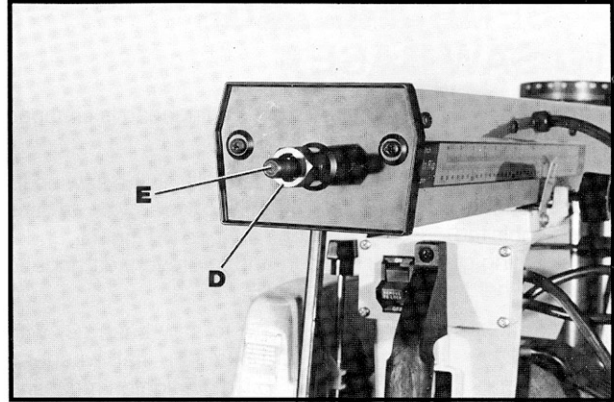

Fig. 10
2. Slide clamp knob adapter (D) Fig. 10, onto track arm index rod (E).